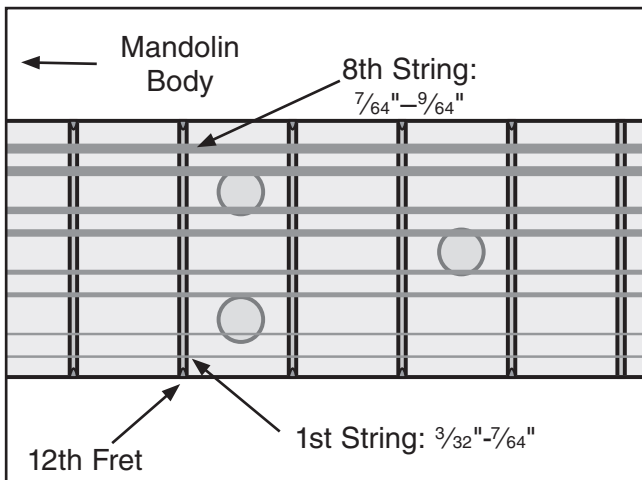

Figure 32. Correct 12th fret string heights.
1. Measure the string height at the 12th fret (**Figure 32**). The first string measurement should be $\frac{3}{32} - \frac{7}{64}$ "; the 8th string should be $\frac{7}{64} - \frac{9}{64}$ ".